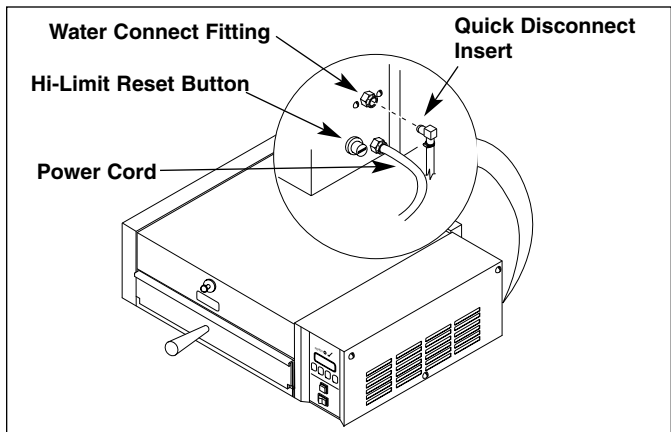

Figure 4. Connecting Water Supply to MS-250/255
2. Push the quick disconnect insert into the fitting on the back of the unit (Figure 4).